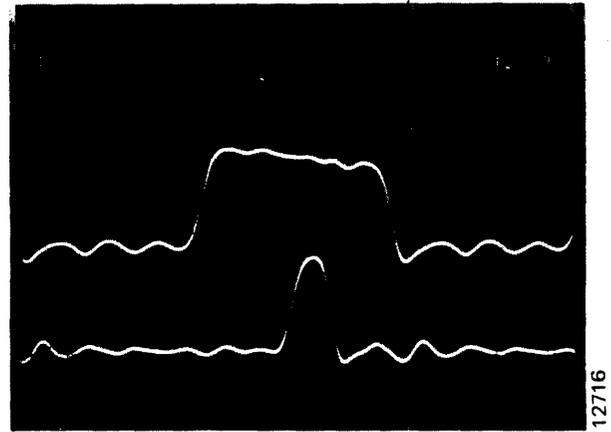

Figure 4-5. Skew One-Shot Adjustment Waveform
- Increase the scope sweep rate to 20 nanoseconds per division, and center the Channel 1 positive half cycle at the 50-percent amplitude points. See Figure 4-5. Fine adjust potentiometer R16 to position the leading edge of the Channel 2 pulse exactly center of the Channel 1 half cycle at its 50-percent amplitude point.